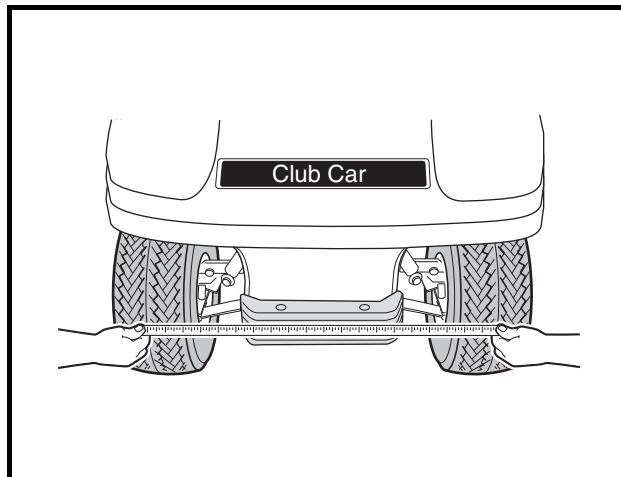

Figure 7-17 Check Toe-In
3. Measure the distance between the marks on the rear-facing surfaces of the tires, and then roll the vehicle **forward** one and one-half wheel revolutions until the marks appear on the forward facing surfaces of the tires at about the same height from the floor (**Figure 7-17, Page 7-16**).